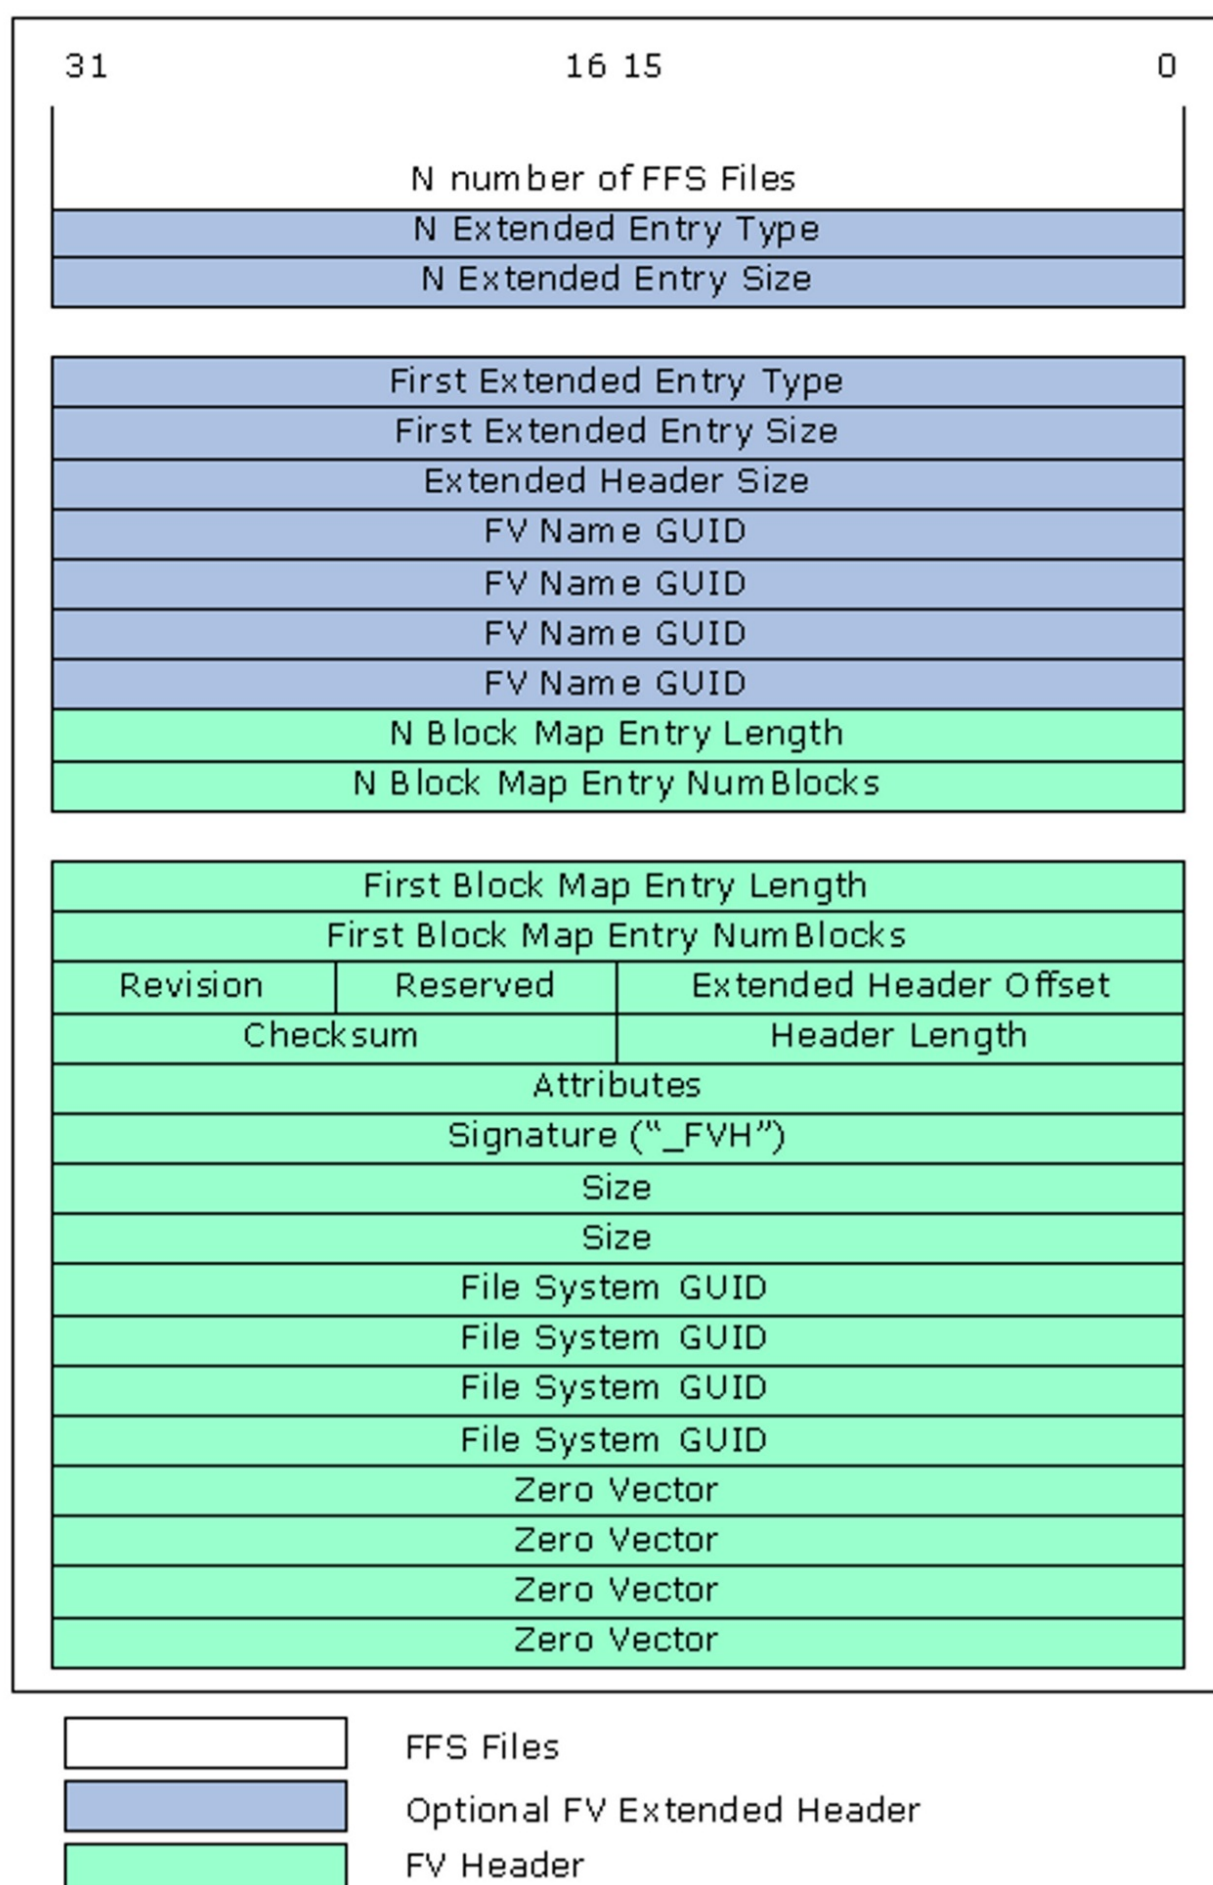

Figure 11 General FV Layout
One or more FFS files are combined into a Firmware Volume (FV). The format for an FV is a header followed by an optional extended header, followed by zero or more FFS files. Figure 11 illustrates the layout of the FV.